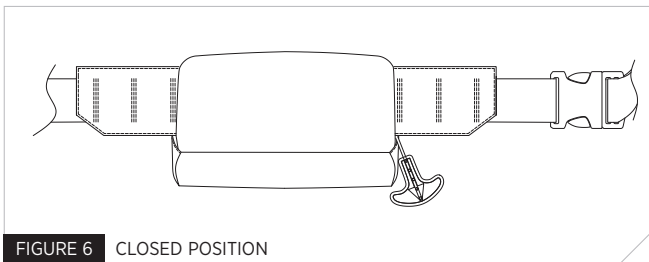

FIGURE 6 CLOSED POSITION
- Tuck in the bottom of the back flap and secure the hook and loop fastener (see Fig. 6).